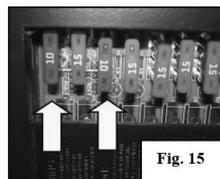

Fig. 15
There are two fuses that control the Wi-Fi system and the multiplex network in the RV. They are the (2) red 10 amp fuses located in the load center (Fig. 15).
- B. If the crosshairs are not tapped accurately the screen will display a message stating “Bad Calibration Tap to Restart” (Fig 15). If this happens press anywhere on the screen to restart the procedure.